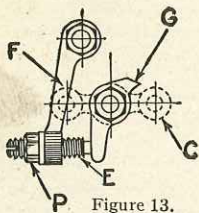

Figure 13.
**Figure 13.** Shows the push finger "G" and movable electrode adjusting screw "E" that controls the position of the igniter points on the inside of the engine. This screw must be kept in proper adjustment, as explained at the top of page 31, so as to take up any wear on the push finger or the igniter parts.
Remove magneto and the igniter plug as shown above from engine without taking the magneto off the bracket. Trip the magneto with tripping lever the same as when starting the engine. If no spark occurs at igniter points it may be that the insulation on the stationary electrode is broken and should be replaced. (See list of repairs, page 27, No. 353 and No. 359.) Also see that the igniter points are together. If the points are apart, adjust them by loosening locknut "P" and turning adjusting screw "E" (Figure 13, page 28) until the igniter points are together.
If you want to run the engine with a battery instead of magneto, loosen locknut "P" and tighten the adjusting screw "E" (Figure 13, page 28) until the igniter points are separated about the thickness of a postal card, then tighten the locknut "P."